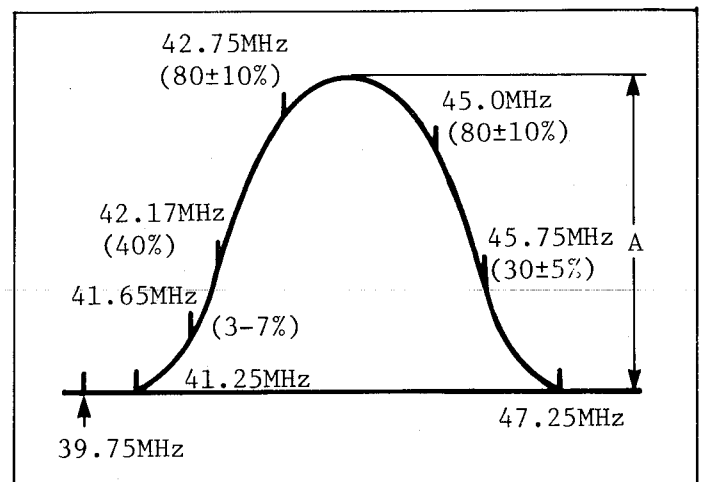

Fig. E45
15. Set the 39.75MHz Trap (Z) on the VIF Sweep Generator.
16. Adjust the IF FILTER (T706)-(2) so that the 39.75MHz trap (Z) becomes minimum.
17. Adjust the tuner converter coil (L33) on the VHF/UHF tuner unit and (3), (4), (5) and (6) trans of T706 so that the sweep output waveform becomes as shown Fig. E45.